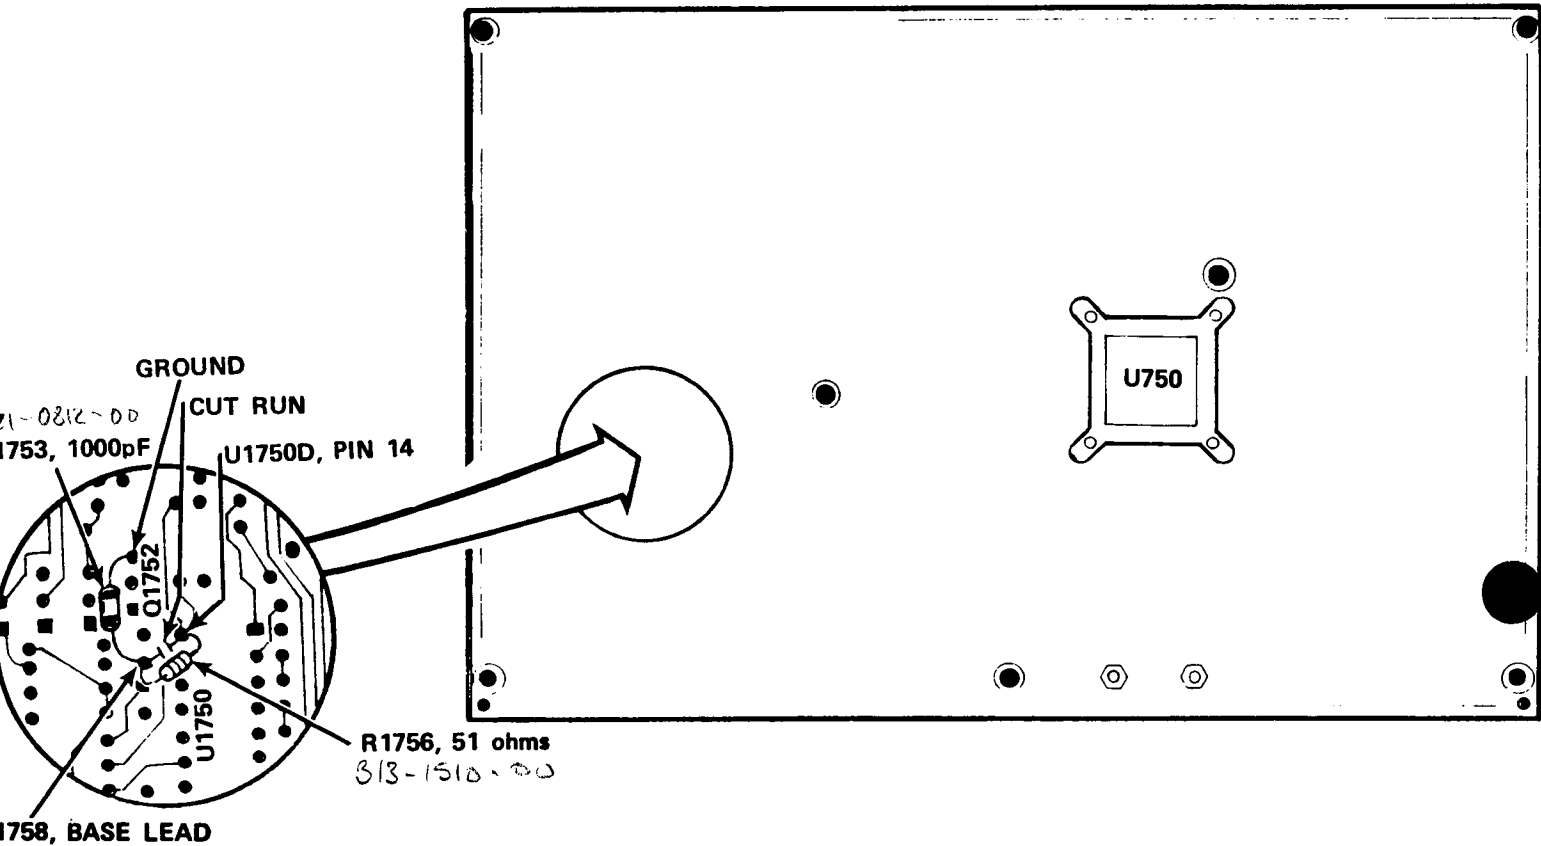

Figure 13. - C1753. R1756 configuration.
- ( ) 31. On the back (solder) side of the Acquisition circuit board remove a section of circuit board run connecting the base of Q1758 to U1750D, pin 14, refer to figure 13.
- ( ) 32. On the back (solder) side of the Acquisition circuit board solder R1756, 51 $\Omega$ , resistor, pn 313-1510-00, to the circuit board pad common to base lead of Q1758 and the circuit board pad common to U1750D, pin 14, refer to figure 13, for component location.
- ( ) 33. On the back (solder) side of the Acquisition circuit board solder C1753, 1000pF, capacitor, pn 281-0812-00, to the circuit board pad common to base lead of Q1758 and the circuit board pad common to ground, refer to figure 13, for component location.